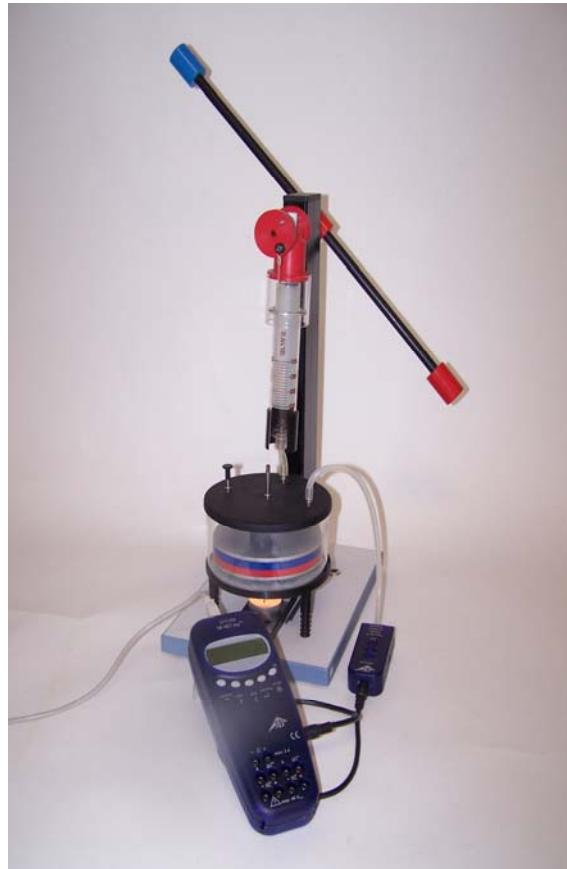

Fig. 1 Experiment set-up for recording operating pressures in the Wilke-type Stirling engine while in motion
- Set up the experiment as shown in fig. 1.